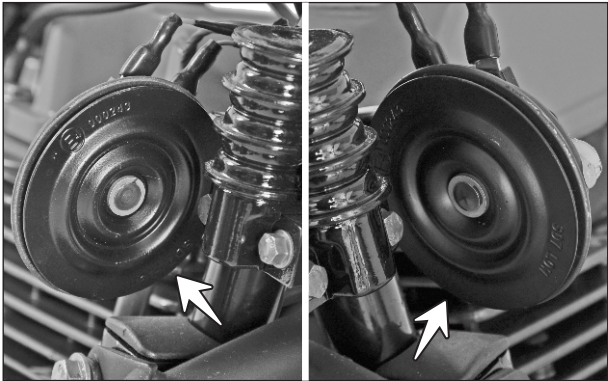

Fig. 5.24
- The horns are mounted on the frame at the front side of the vehicle below the fuel tank. (Fig. 5.24)
- The DC output orange wire (Or) from the ignition lock is connected to the horns directly and the negative green wire (G) from the horns is connected to earth through the horn switch.